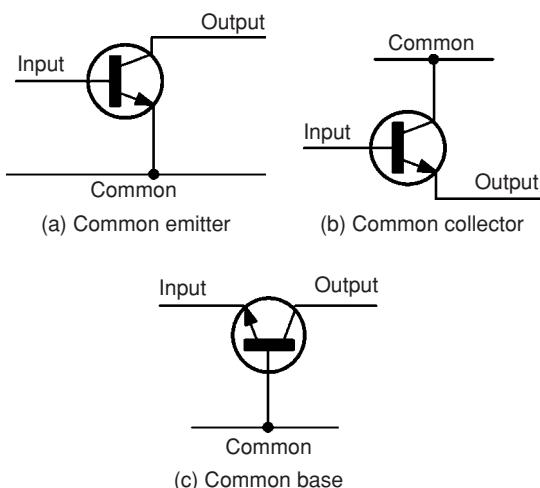
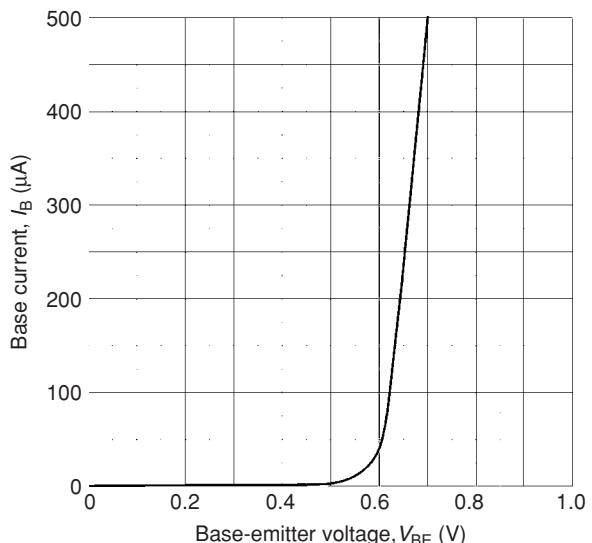
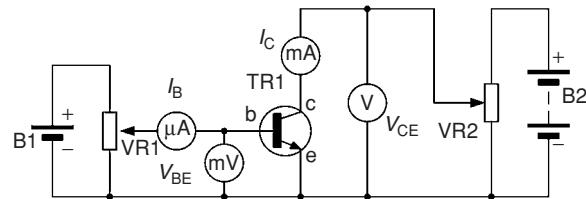

Figure 12.8
Figure 12.9
Figure 12.12
Three basic circuit configurations are used for transistor amplifiers. These three circuit configurations depend upon which one of the three transistor connections is made common to both the input and the output. In the case of bipolar junction transistors, the configurations are known as **common-emitter**, **common-collector** (or **emitter-follower**), and **common-base**, as shown in Fig. 12.8.
The characteristics of a bipolar junction transistor are usually presented in the form of a set of graphs relating voltage and current present at the transistors terminals. Fig. 12.9 shows a typical **input characteristic** ( $I_B$  plotted against  $V_{BE}$ ) for an n-p-n bipolar junction transistor operating in common-emitter mode. In this mode, the input current is applied to the base and the output current appears in the collector (the emitter is effectively **common** to both the input and output circuits as shown in Fig. 12.8(a)).
A circuit that can be used for obtaining the common-emitter characteristics of an n-p-n BJT is shown in Fig. 12.12. For the input characteristic, VR1 is set at a particular value and the corresponding values of  $V_{BE}$  and  $I_B$  are noted. This is repeated for various settings of VR1 and plotting the values gives the typical input characteristic of Fig. 12.9.
**Input resistance** (from the input characteristic, Fig. 12.9)